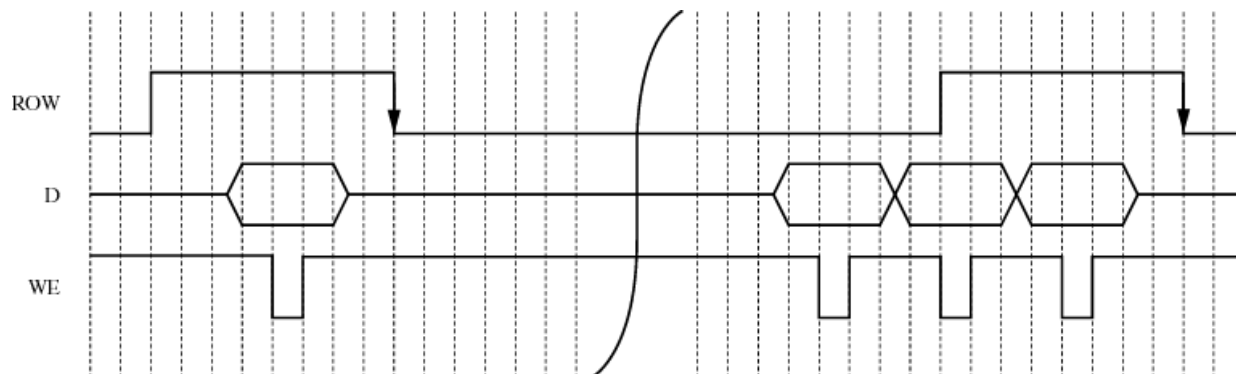

Figure 14. Timing for Writing Data to the On-board Registers through the Data Bus.
Row Synchronization: The only output from the image sensor besides the data bus is the ROW signal. The ROW signal stays HIGH for one SCLK period during a row time. When ROW goes HIGH, the system must stop reading data from the sensor. The period when ROW is HIGH is a good time to write data to the image sensor program registers (Figure 14).
The programmable registers are updated when the write enable (WE) input signal goes low. Data on the data bus must be set up before WE is brought low and be held for a short time after WE is brought high (*Figure 14*).